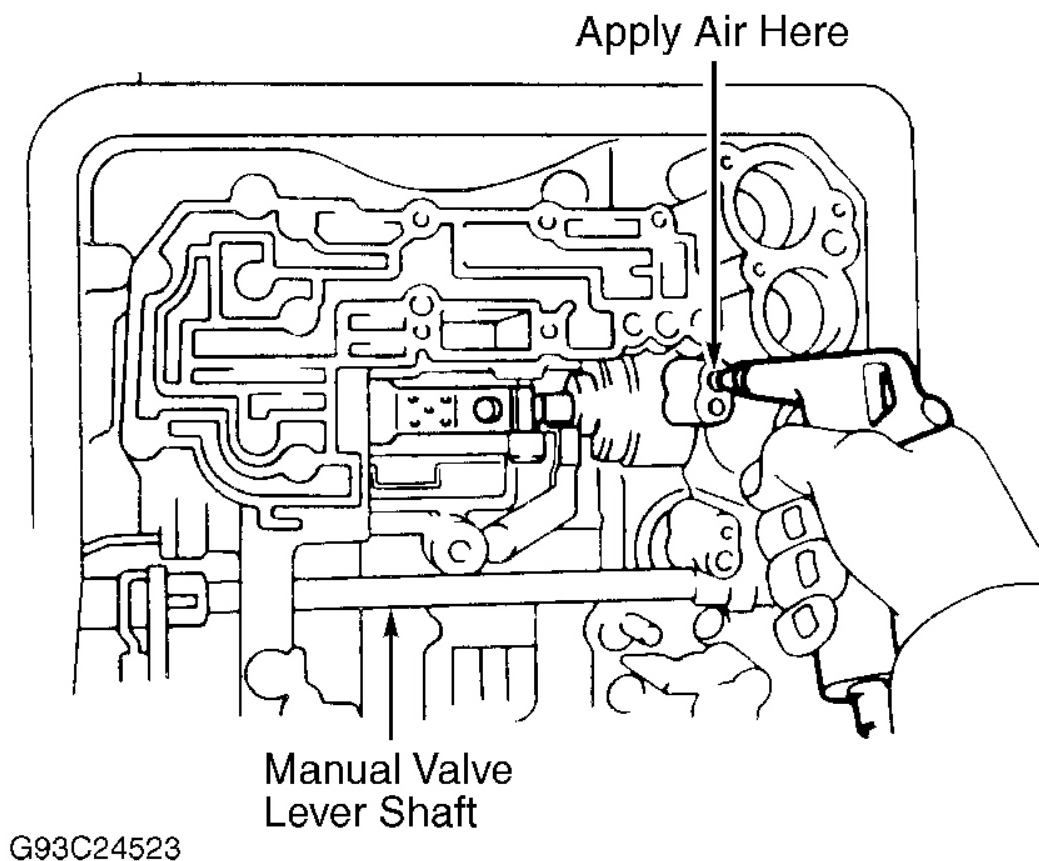

Fig. 41: Checking 2nd Coast Brake Band
16. Coat race "A" with petroleum jelly and install on stator shaft. See **Fig. 41** . Install "O" ring on oil pump. Install oil pump into transaxle case. Hold input shaft and lightly press oil pump body to slide oil seal rings on stator shaft through direct clutch drum. Install and tighten bolts to 16 ft. lbs. (22 N.m).
18. Measure 2nd coast brake piston stroke by applying compressed air to oil passage in transaxle case. See **Fig. 41** . Piston stroke should be .059-.118" (1.50-3.00 mm). If piston stroke is not within specification, replace piston rod. Piston rods are available in lengths of 2.811" (71.40 mm) and 2.870" (72.90 mm). Recheck piston travel after changing piston rod. If travel still exceeds specification, replace 2nd coast brake band.